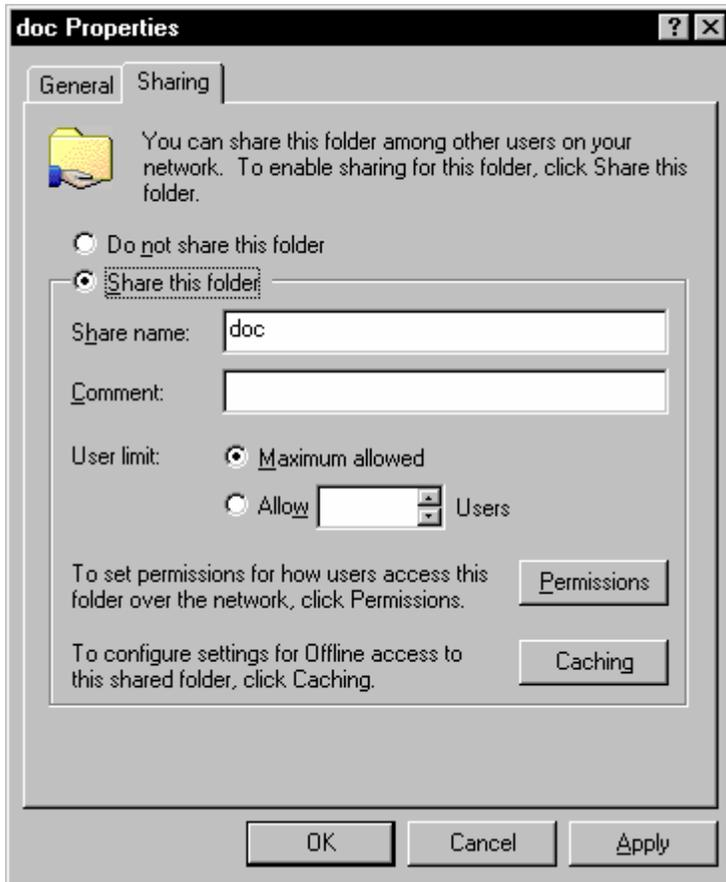

Fig. 11-2
2. Right-click the **doc** folder. Select **Sharing** from the drop-down menu. The Sharing tab on the doc properties dialog box is displayed, Figure 11-2.